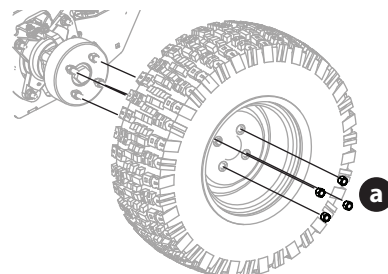

Figure 54
1. Remove the four lug nuts (a) to remove the tire (Figure 54).
2. Reinstall the tire using the four lug nuts (Figure 54). Torque the lug nuts (a) to 65-70 ft-lbs (88-95 N-m).